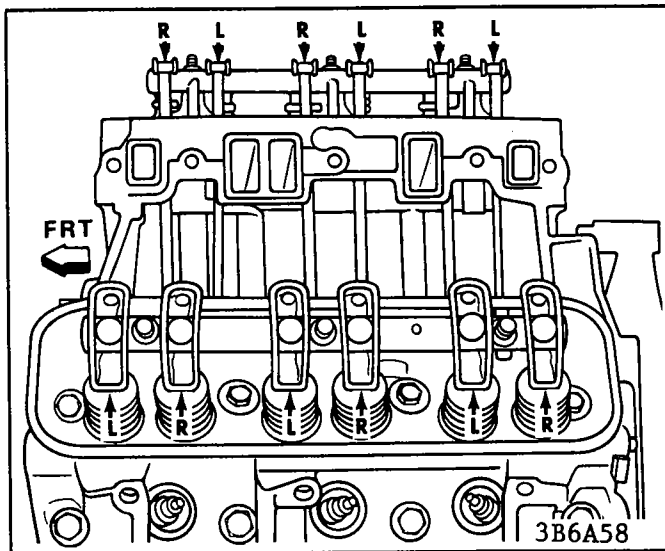

Figure 7 Position of Service Rocker Arms on Shaft
- Should it become necessary to replace one or more rocker arms, it must be noted that all service rocker arms are stamped (R) right (L) left. Be sure rocker arms are installed on the rocker arm shaft in the correct sequence (Figure 7).